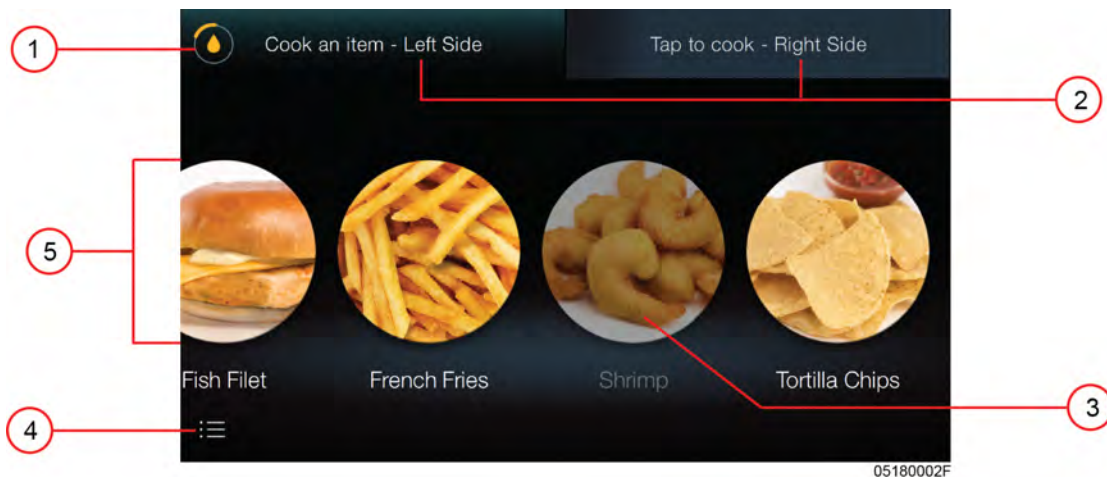

Figure 4-6 Homescreen
When oil temperature heats to 10°F (5.5°C) below setpoint, the fryer is in the ready mode, and the heat pulses to avoid temperature overshoot, see Figure 4-5 Ready to cook, page 20. When you are ready to cook, tap the **Cook on Left Side** button and this will take you to the homescreen with food items active for the left basket. Tap the **Cook on Right Side** button and the homescreen displays with food items active for the right basket, see Figure 4-6 Homescreen, page 21 for more information. **INFO:** The setpoint temperature of the oil is variable and can be changed in food items, see 5.3 Food Item Settings, page 41.
The homescreen is the primary operating screen of the F5. From this screen, you can start timers, access oil information and enter the settings menu. There are two tabs (2) at the top of the home screen used to select whether the display is active for the left side or the right side. The left side in Figure 4-6 Homescreen, page 21 is active because the left tab shows **Cook an item - Left Side**. To activate the right side, tap the **Tap to cook - Right Side** tab. The food items displayed on the homescreen apply to the active side only. Settings accessed from the homescreen apply to both sides for full vats, but some features in settings apply only to the active side for a split vat.
These are grayed out food items which require an oil temperature change before cooking, see Figure 4-6 Homescreen, page 21. Tapping on an incompatible food item opens a display which lets you know that either the oil needs to heat or cool down to a new setpoint.